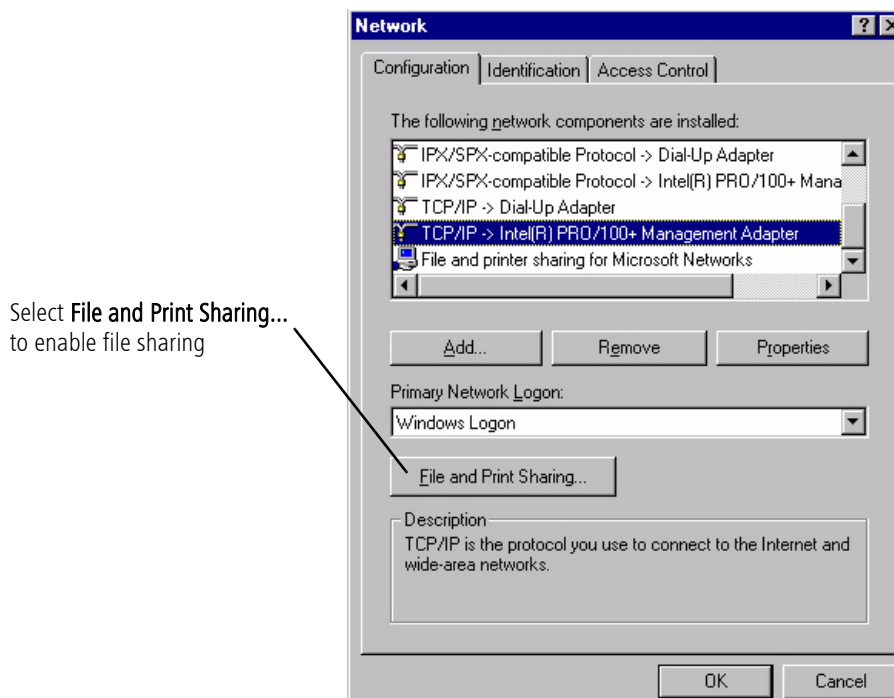

Figure 11-4 Windows 98 Network Control Panel
4. To enable file sharing, select **File and Print Sharing...** from the Configuration tab (Figure 11-4).